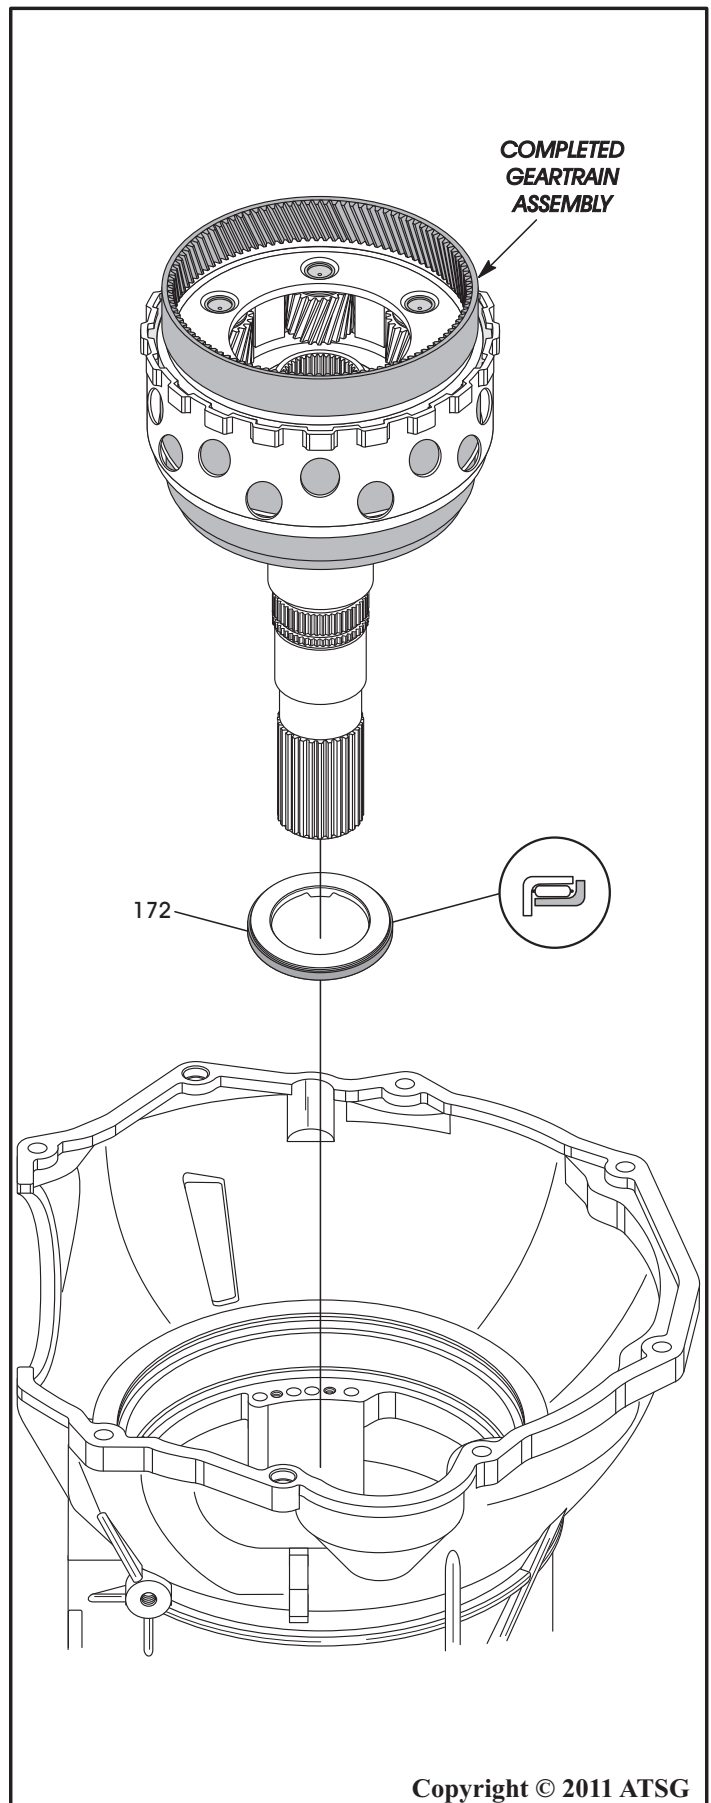

Figure 142
7. Install the number 12 thrust bearing onto the low/reverse clutch housing with the Black side facing down, as shown in Figure 142, and retain with small amount of Trans-Jel®.
8. Install the pre-assembled geartrain assembly, as shown in Figure 142, through the low/reverse clutch housing.